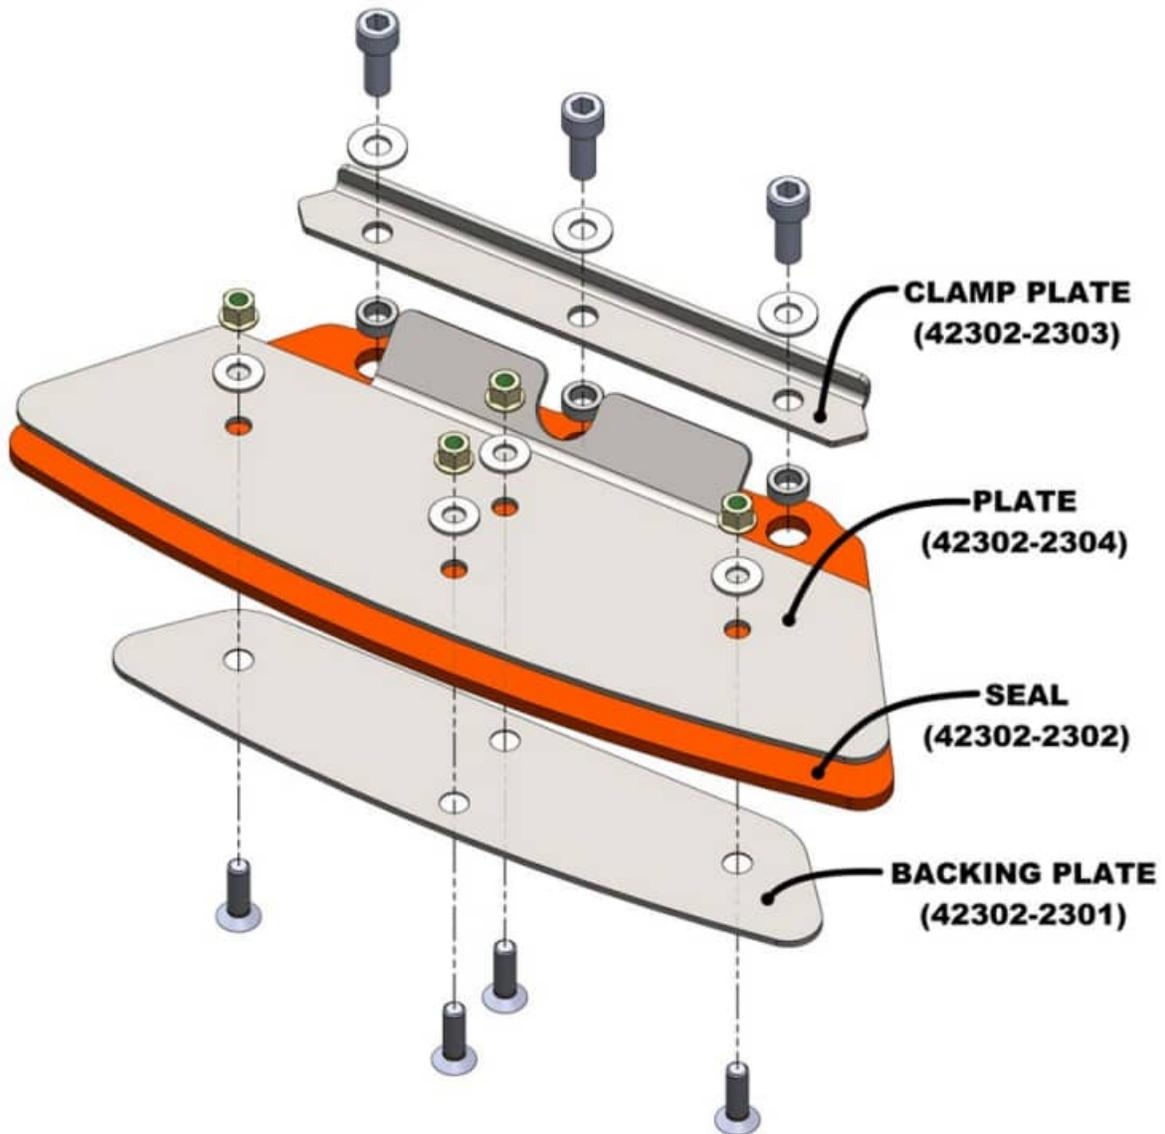

Figure 31: Check Valve Assembly
3. Check Valve(s) Disassembly (see Figure 31)